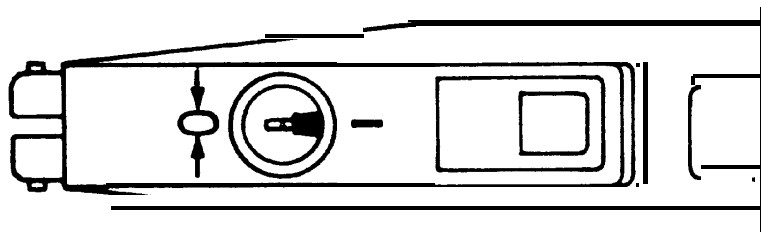

Fig. 1
4. The switch-on lock on the soldering unit can be released by setting the locking facility to position „I“ using the supplied screwdriver (refer to Fig. 1).